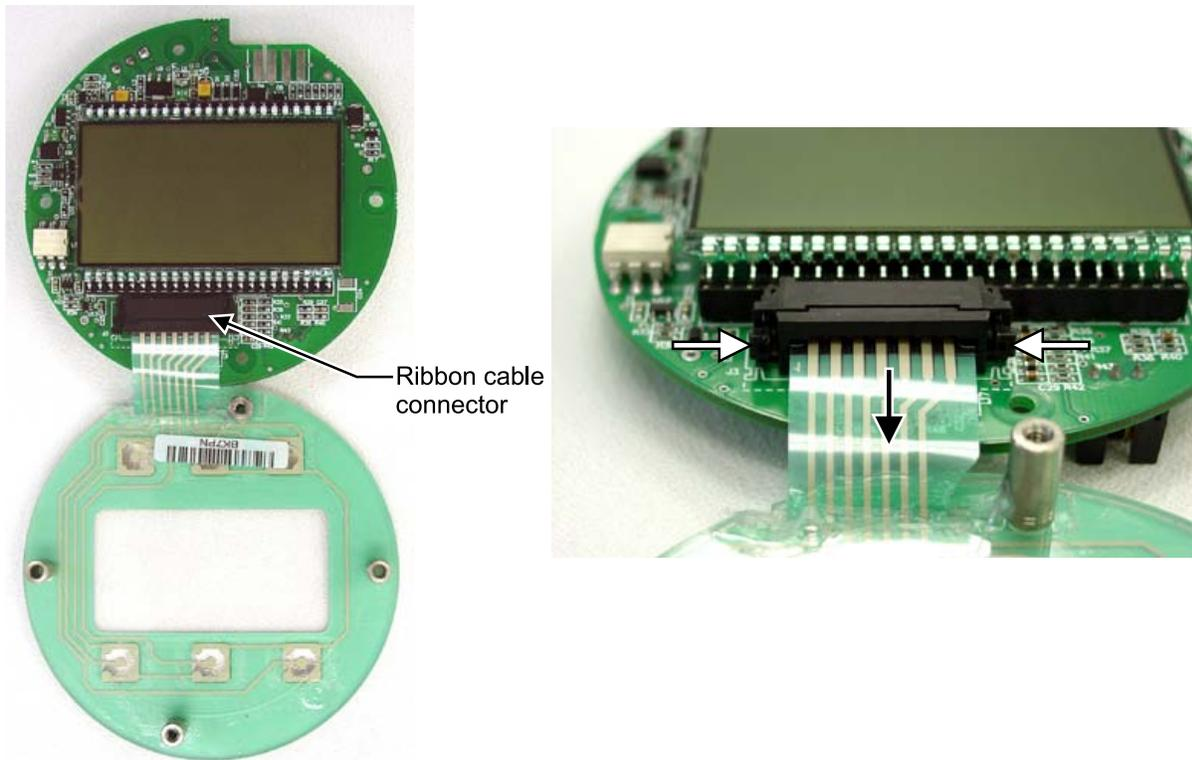

Figure 6.6—To release the ribbon cable from the connector, press in on the side tabs of the connector (white arrows) and gently pull forward (black arrow).
- a. Grasp the black clip between a thumb and forefinger (see white arrows in Figure 6.6 below).
- a. Grasp the black clip between a thumb and forefinger (see white arrows in *Figure 6.6, page 90*).